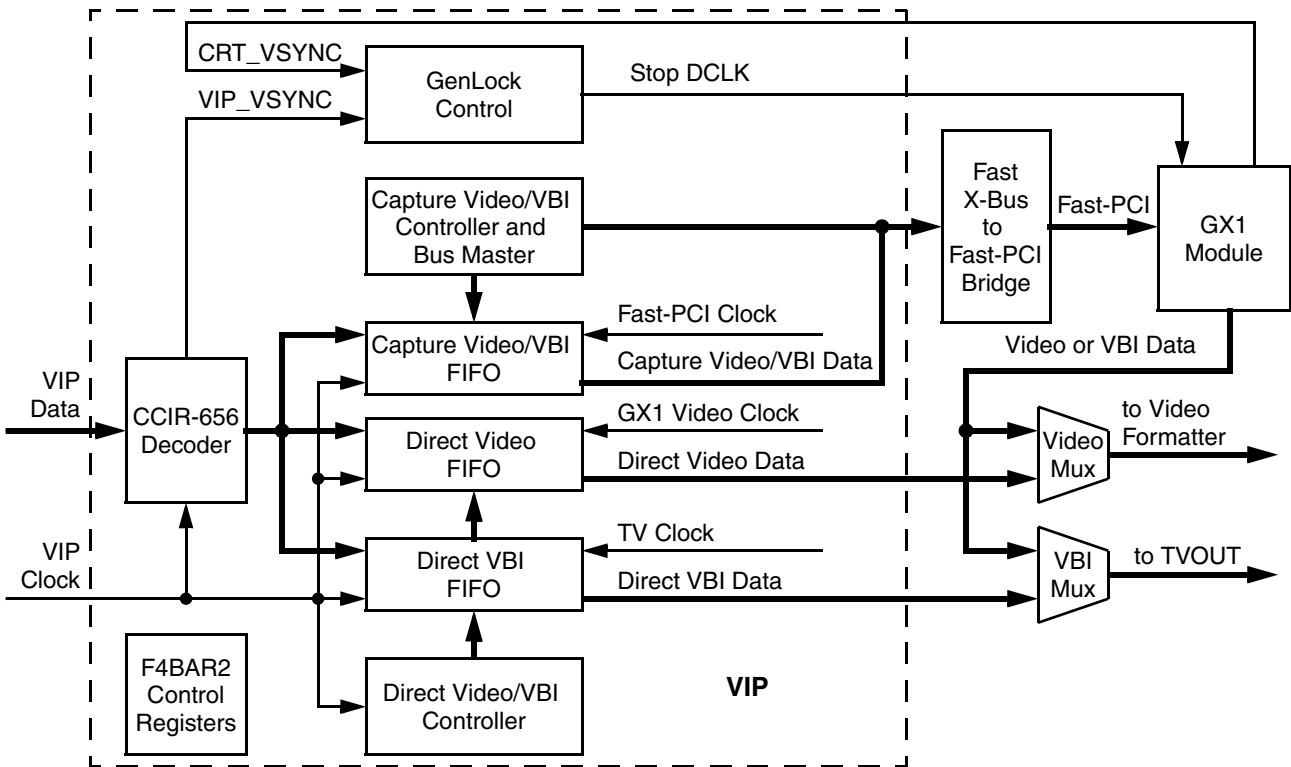

Figure 7-4. VIP Block Diagram
The VIP block is designed to interface the SC1200/SC1201 processor with external video processors (e.g., Philips PN1300 or Sigma Designs EM8400) or external TV decoders (e.g., Philips SAA7114). It inputs CCIR-656 Video and raw VBI data sourced by those devices, decodes the data, and delivers the data directly to the Video Formatter (Direct Video/VBI modes) or to the GX1 module's Video Frame Buffer (Capture Video/VBI modes). Figure 7-4 shows a diagram of the VIP block.
- 2) The altered VBI data can be sent to the TVOUT block of the Video Processor via the video frame buffer or graphics frame buffer. See VIP block diagram (Figure 7-4 on page 315). The Closed Captioning data could be altered and then sent out this way. One reason to capture the Closed Captioning data would be to do a language conversion. If the VIP block is in Capture Video mode then this option is not possible because the video frame buffer can be used for sending video or VBI, but not simultaneously.